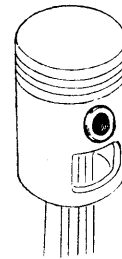

Fig. 6
- Insert the dummy wrist pin which comes with Tool No. 100008 to align the assembly (fig. 6).